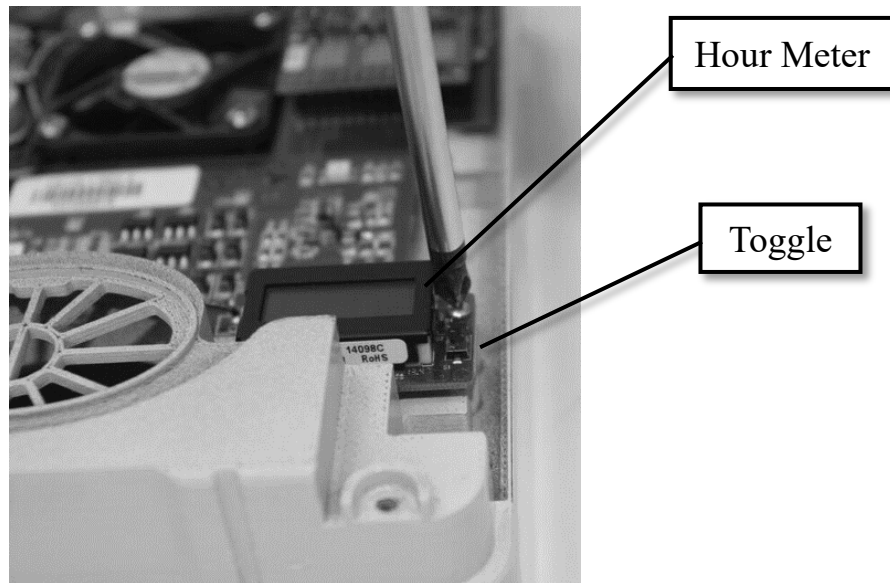

Figure 20: Hour Meter
This switch (showing in Figure 20) toggles the display or resets the maintenance channel depending on the activation time and the current display mode.
3. Locate the hour meter (shown in Figure 20).